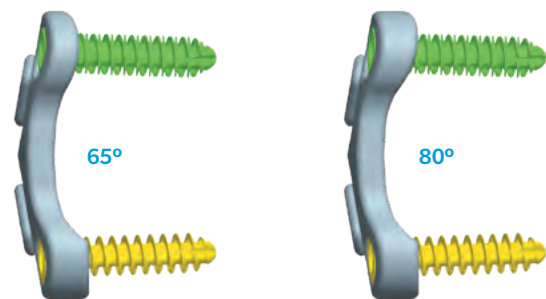

Figure 7:
- The sacral plate is available in 65° or 80° configurations (Figure 7).